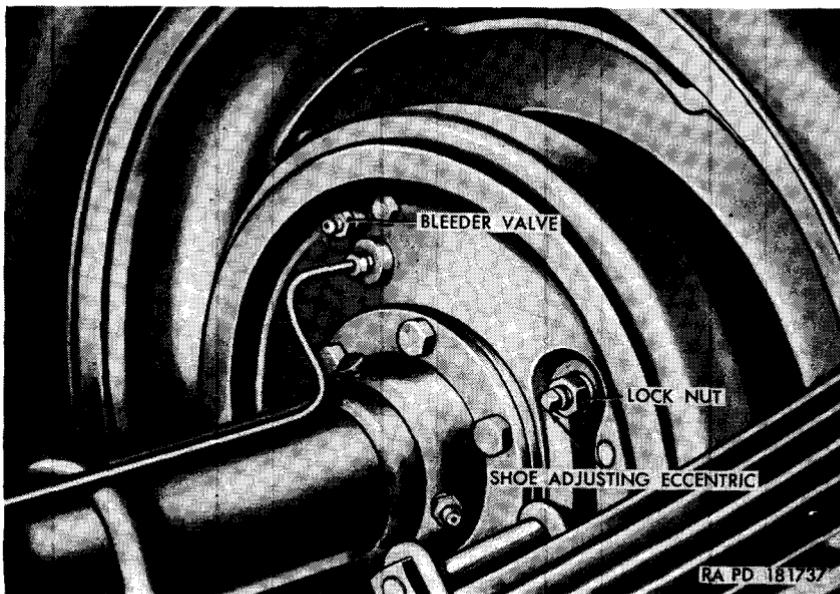
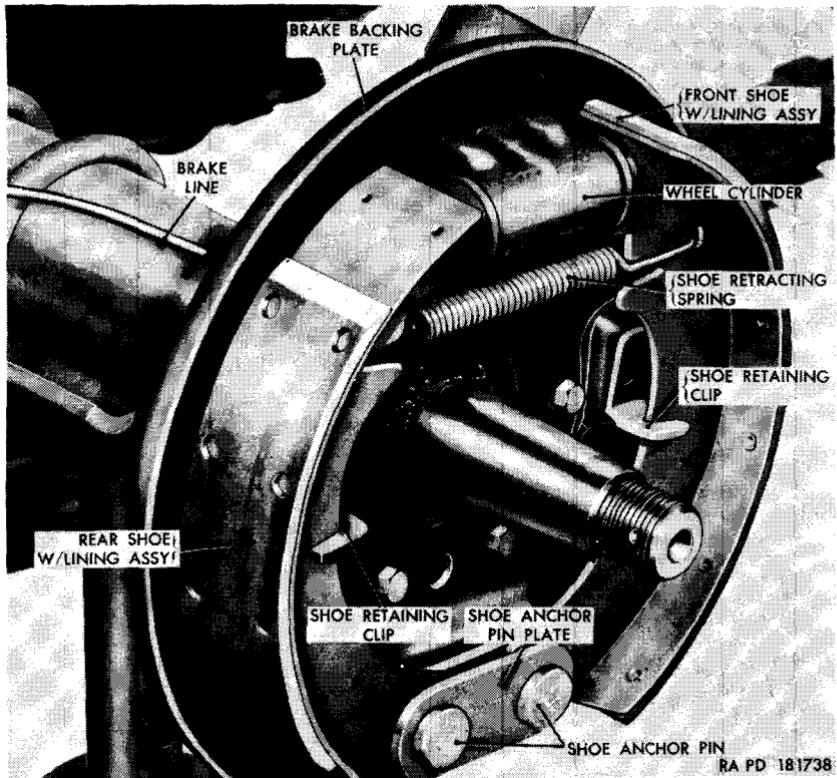

Figure 115. Brake shoe adjusting eccentric and bleeder valve.
Figure 116. Service brake assembly—brake drum removed (right rear shown).
- (2) Loosen the nut (fig. 115) on the shoe adjusting eccentric. Place a wrench on the shoe adjusting eccentric so that the wrench extends upward. Rotate the wheel and turn the shoe adjusting eccentric, moving the wrench handle away from the axle until a slight drag of the drum on the brake shoe is felt. Back off the eccentric until drag is no longer felt and the wheel turns freely. Hold the shoe adjusting eccentric in this position with the wrench and tighten the nut. Rotate the wheel again to make sure that the wheel still turns freely. Repeat the operation on the other three wheels. Remove the vehicle from the safety stands.
- (1) Remove wheel (par. 237).
- (2) Rotate the brake drum until the slotted opening in the drum is at the lower end of a brake shoe and insert a 0.005-inch feeler gage through the opening between the lining and the drum. If the clearance is greater or less than 0.005-inch, adjust to proper clearance. To adjust the lower end of a shoe, loosen the nut on the shoe anchor pin (fig. 116) on the inner side of the brake backing plate. Turn the shoe anchor pin with a wrench until the proper clearance is obtained. Hold the shoe anchor pin with the wrench and tighten the nut on the anchor pin. Repeat the operation on the second brake shoe and anchor pin.
- (3) Rotate the brake drum until slotted opening in the drum is at the upper end of a brake shoe and insert a 0.008-inch feeler gage through the opening between the lining and the drum. If the clearance is greater or less than 0.008-inch, loosen the nut (fig. 115) on the shoe adjusting eccentric. With a wrench, turn the shoe adjusting eccentric until the proper clearance is obtained. Hold the shoe adjusting eccentric with the wrench and tighten the nut. Repeat the operation on the second brake shoe. Rotate the drum and again check clearances.
- (4) Install wheel (par. 228 or 256).
- (5) Repeat the procedure for the other three wheels.
d. Brake Shoe Removal (fig. 116).
- (1) Remove wheel (par. 256).
- (2) Loosen the nuts (fig. 115) on the two shoe adjusting eccentrics and turn the shoe adjusting eccentrics toward the axle so that the low sides of the eccentrics are against the brake shoes.
- (6) Pull the brake shoes out from the wheel cylinder, free from the shoe retaining clips, and remove the shoes from the vehicle.
e. Brake Shoe Installation (fig. 116).
- (1) Position the brake shoes on the backing plate, sliding the shoes into the shoe retaining clips and the wheel cylinder. The shoe with the long lining goes to the front.
- (2) Insert shoe anchor pin cam into the hole in each shoe. Place the shoe anchor pin plate in position over the cams in the shoes. Insert the shoe anchor pins through the plate, cams, and backing plate. Place a lockwasher on each shoe anchor pin on the inner side of the backing plate and screw nut on each pin but do not tighten. Hook the shoe retracting spring into each brake shoe and remove the brake wheel cylinder clamp.
- (3) Position the brake drum on the hub, align the holes in the drum with the holes in the hub, and install the three $\frac{1}{4} \times \frac{5}{8}$ bolts.
- (4) Adjust the brakes (*c* above) and install wheels (par. 256).
(fig. 116)